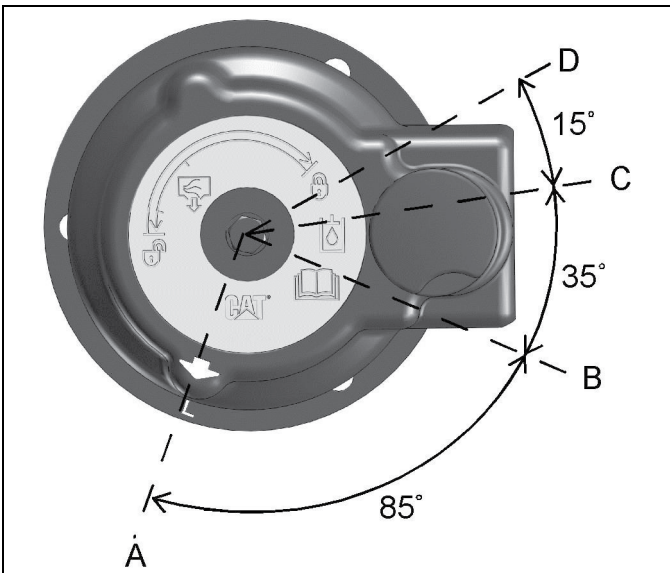

Figure 10-154: Filler Cap
5. Release the pressure that may be present in the return hydraulic circuit with the following procedure. Refer to Figure 10-154 for filler cap positions.
- a. Turn the filler cap counterclockwise and move the arrow from position (A) to position (B).
- b. Release the pressure for a minimum of 45 seconds by moving the arrow from position (B) to position (C).
- c. Move the arrow from position (C) to position (D).
8. Clean the filler cap and install on the tank. Tighten the filler cap on the hydraulic tank to position (A).